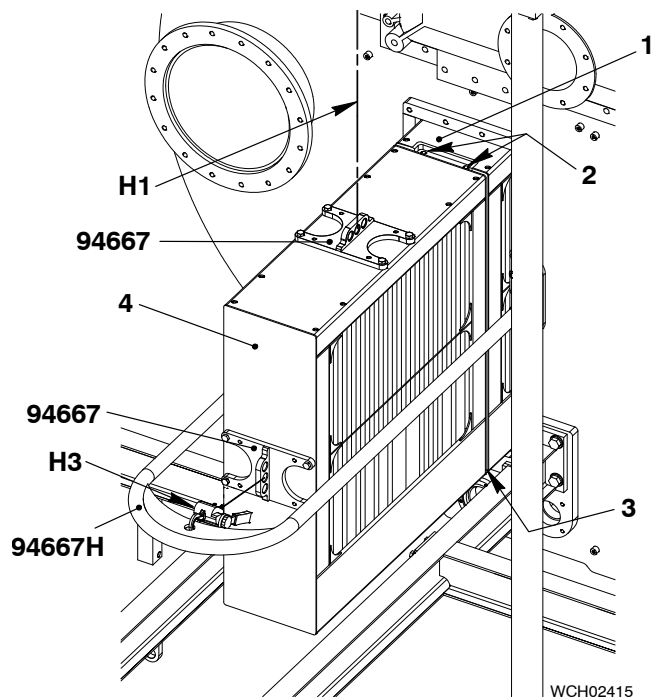
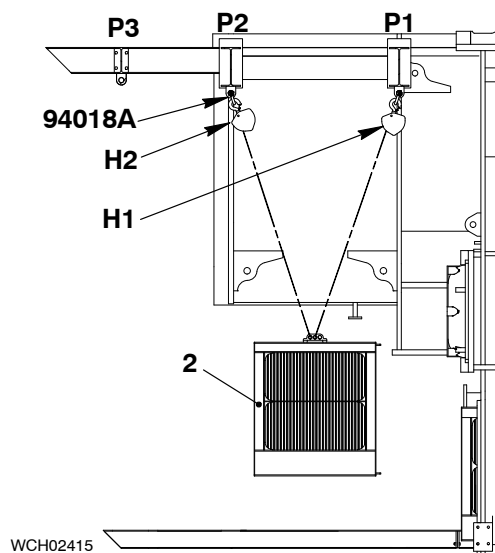

Fig. 3
Fig. 4
- 1) Operate the manual ratchet (H2, Fig. 3) to pull the water separator (4) sufficiently so you can attach the tool (94667) to the water separator.
- 2) Attach the tool (94667) to the top of the water separator (4).
- 5) Operate the manual ratchet (H3) to pull the water separator (4) from the receiver until you can get access to the four screws (2, 3). At the same time, operate the manual ratchet (H1) to hold the mass of the water separator.
- 6) Remove the the two top screws (2) and the two bottom screws (3) between the front and rear water separators.
- 7) Operate the manual ratchet (H3) to pull the water separator (4) a small distance to disconnect the water separator.
- 9) Remove the tool (94667) from the front of the water separator (4).
- 10) Attach the shackle (94018A, Fig. 4) to the gallery.
- 12) Attach the manual ratchet (H2) to the lifting tool (94667) on the water separator (1).